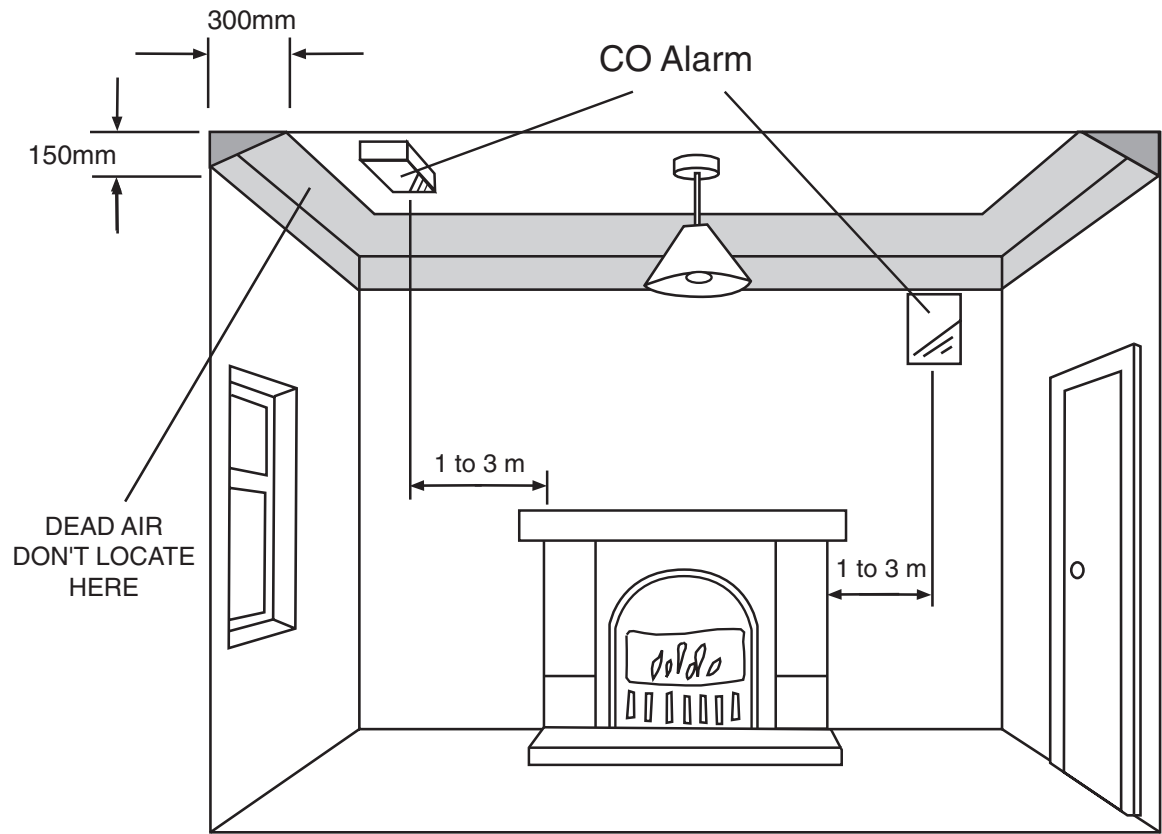

Figure 2.
4.31 If locating the CO alarm in a room with a fuel burning appliance (see figure 2)